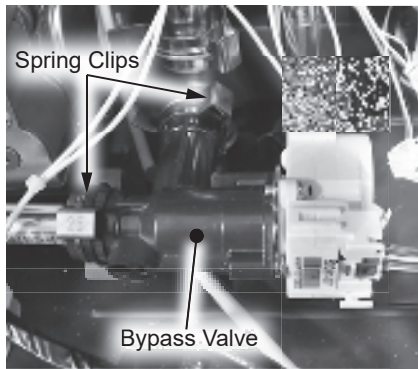

Figure 163 - Bypass valve location
17 Locate the bypass valve at the bottom front side of the water heater as shown in Figure 163. Disconnect the wiring harness from the valve.
18 Remove the two (2) spring clips (size 25) securing the bypass valve to the piping system. Remove the bypass valve from pipe connections. Place components aside in a safe place for reinstallation. See Figure 163.